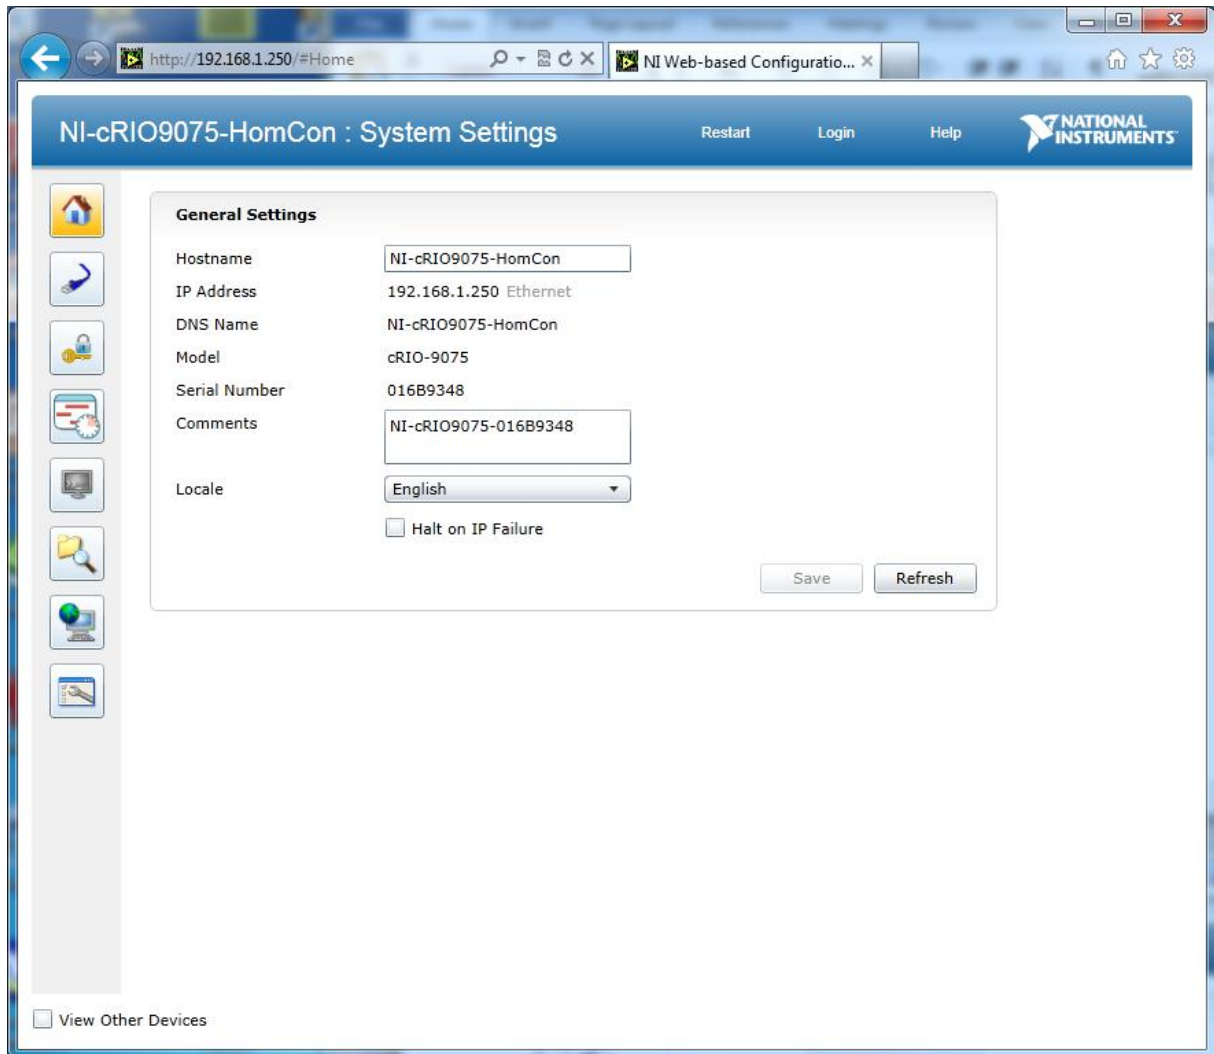

Figure 4. HomCon General Settings page.
- Go to the NI-cRIO9075-HomCon system settings page, which is at the address <http://192.168.1.250:80> . System Settings window (Figure 4) pops up.